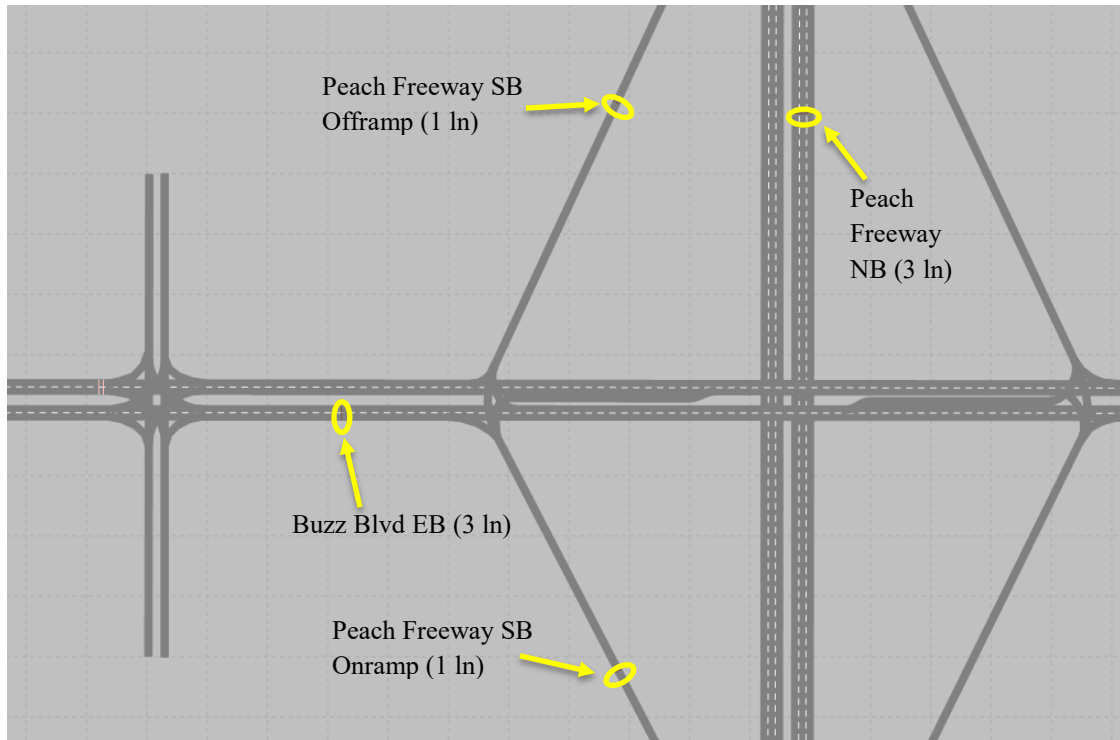

Figure 13: Data Collection point locations
For our example network we will place *data collect points* at the arterial and freeway locations indicated in Figure 13. For demonstration purposes we will only add a few *data collection points* but you could add points at additional locations, as desired. We will place *data collection points* on Peach Freeway NB approximately 500' south of the NB onramp gore; Buzz Blvd EB, approximately 250' west of the freeway onramp; and on the Peach Freeway SB onramp and offramp, approximately half-way between the arterial intersection and freeway gore area. *Data collection points* are lane specific, thus you need to place a data collection point in each lane at each of these locations.
- step ii. Right-click on the Buzz Blvd EB link at the desired location for the *data collection point*, Figure 13. Place a *data collection point* for each lane.
- step iv. Repeat steps i, ii, and iii for the remaining data collection points identified in Figure 13.